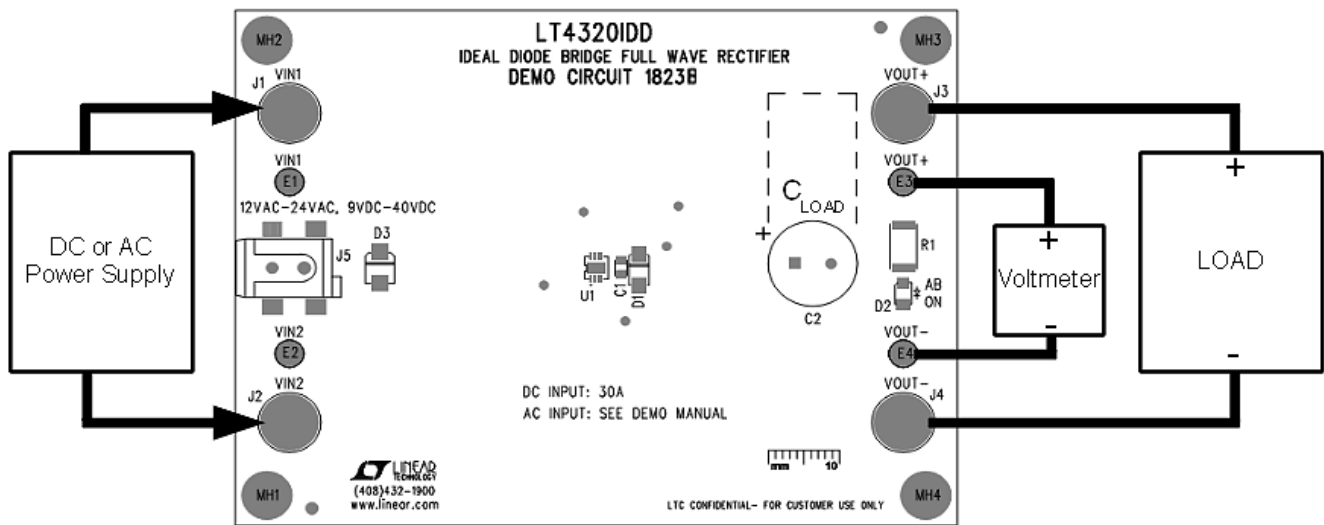

Figure 1. DC1823B Setup
1. Connect a DC or AC power supply to VIN1 and VIN2 in any polarity as shown in Figure 1. Make sure the output voltage of the DC or AC power supply is within the input voltage range of the DC1823B as shown in Table 2.
2. Connect a load and a voltmeter across VOUT+ to VOUT- as shown in Figure 1.